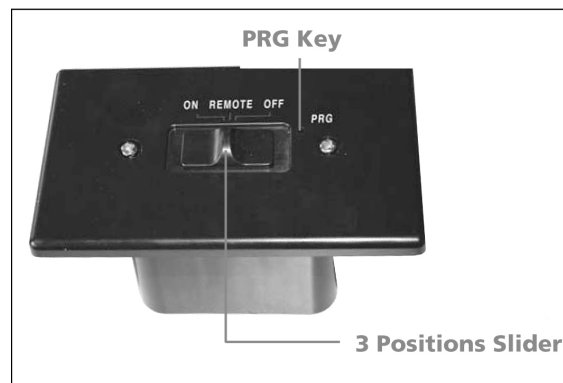

Fig. 3: Receiver body
Install the 4 AA batteries into the receiver battery bay. Note the polarity of battery and insert into the battery bay as indicated on the Battery cover (+/-). Place the 3 position slider switch in the “Remote” position (Fig. 3). Using the end of a paper clip, or other similar object, insert the end of the paper clip into the hole marked “PRG” on the Receiver front cover (Fig. 3). The Receiver will “beep” three (3) times to indicate that it is ready to synchronize with a Transmitter. Install the 3 AAA type batteries in the Transmitter battery bay, located on the base of the Transmitter. With the batteries already installed in the Transmitter, push the On button. The Receiver will “beep” four times to indicate the Transmitter’s command is accepted and sets to the particular code of that Transmitter. The system is now initialized.